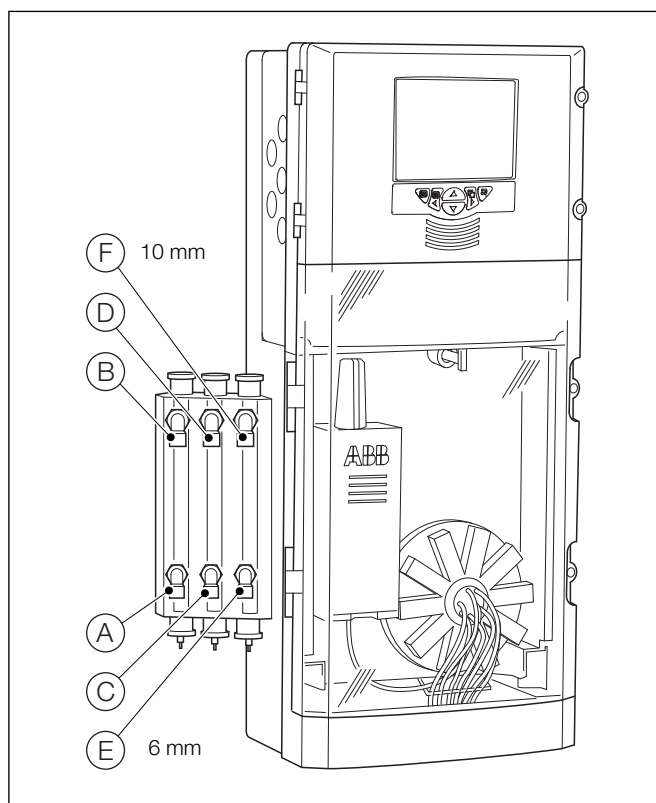

Fig. 4.11 Connecting the Sample Inlet and Drain Line(s) – Multi-stream
The sample drain line(s) (B), (D) and (F) (see Fig. 4.11) must be routed to maintain a gravity-fed drain.